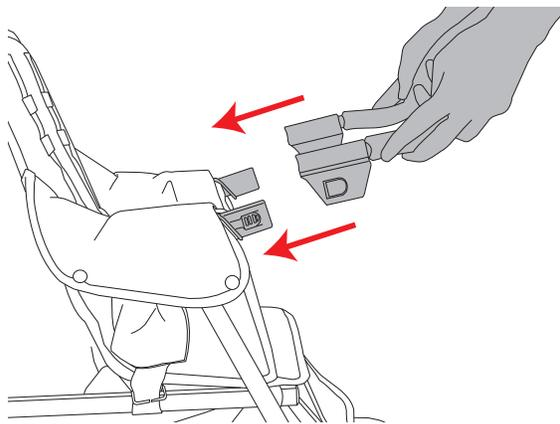

Figure 23
- Line up the female fittings on the Car Seat Carrier Support to the male fittings on the front of the stroller and push inward until the fittings snap into place. See Figure 23. Pull outward on both sides of the support to be sure both are snapped securely in place.